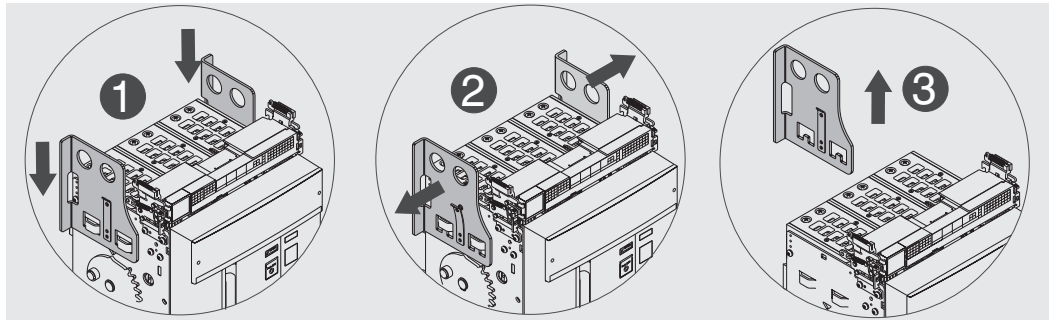

Figure 89
5. Unlatch the tongue and remove the lifting plates from the moving part. See Figure 89.